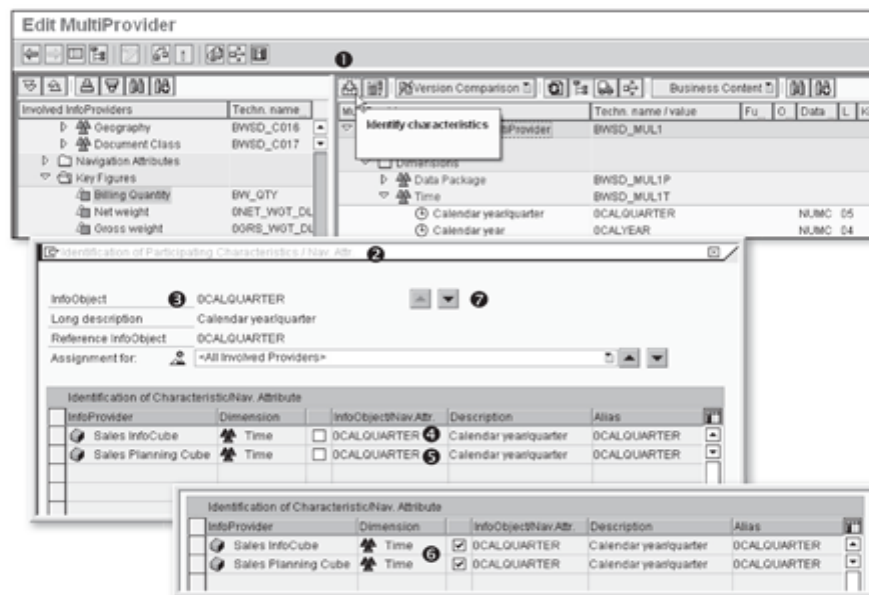

Figure 6.10 Edit MultiProvider: Identify Characteristics
Click on the Identify Characteristics icon as shown in ❶ of Figure 6.10. The Identification of Participating Characteristics/Nav. Attr. box appears (❷). It shows each characteristic included in the MultiProvider and offers the matching characteristics or navigational attributes available from the included InfoCube.
As shown in ❸ of Figure 6.10, it shows the characteristic 0CALQUARTER from the MultiProvider and offers matching characteristics 0CALQUARTER from the Sales InfoCube (BWSD_C01) (❹). It also offers the characteristic 0CALQUARTER from the Sales Planning Cube (BW_PLAN) (❺). You need to confirm this matching by clicking on the checkbox (❻).